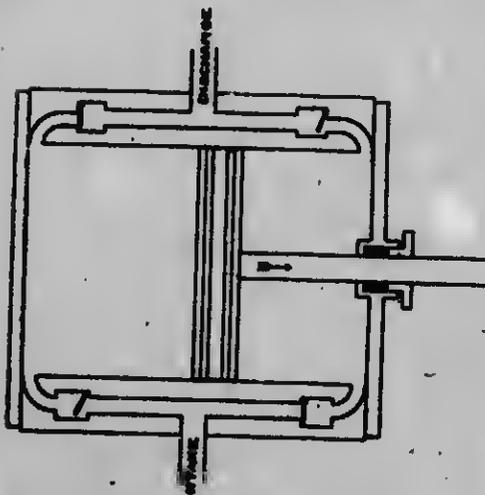

FIG. 11.
**Double-acting Force Pump.** Fig. 11 shows the arrangement of valves in a double-acting force pump. We will now see how the above principles are applied on a larger scale, and how they are really the fundamental principles upon which much of our present day pumping machinery is based. Study the two sketches shown here and you will see what is meant by the term "double-acting."